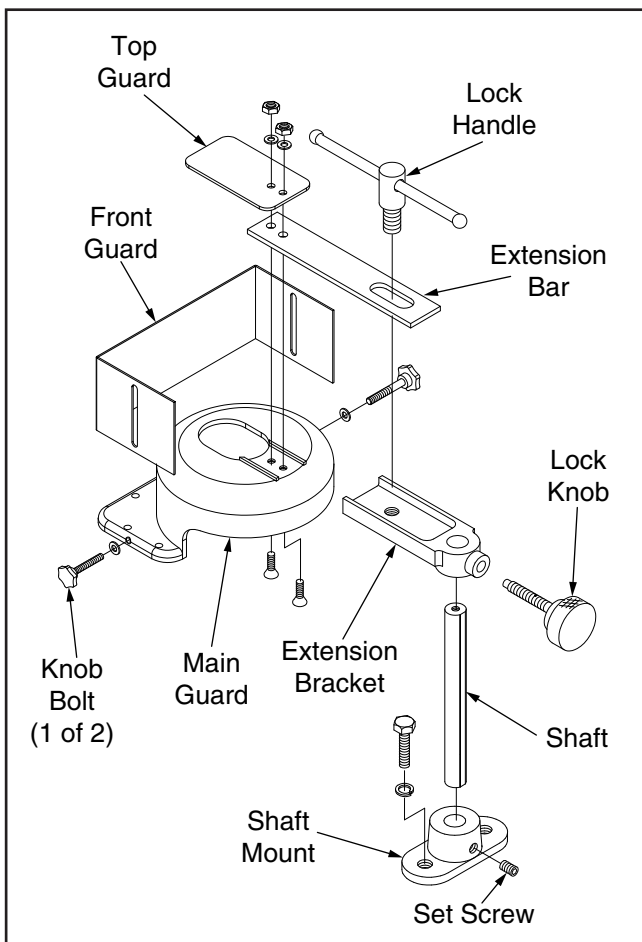

Figure 1. Safety guard assembly.
1. Attach the shaft mount bracket (see **Figure 1**) to the back of the table with the (2) pre-installed hex bolts and lock washers.
4. Sandwich the extension bar between the top safety guard and the main safety guard, then secure the components with (2) $\frac{5}{16}$ "-18 x $\frac{3}{4}$ " flat head screws, (2) $\frac{5}{16}$ " flat washers, and (2) $\frac{5}{16}$ "-18 hex nuts, as illustrated in **Figure 1**.
5. Attach the front safety guard to the sides of the main safety guard with (2) $\frac{1}{4}$ "-20 x $\frac{1}{2}$ " knob bolts and (2) $\frac{1}{4}$ " flat washers.